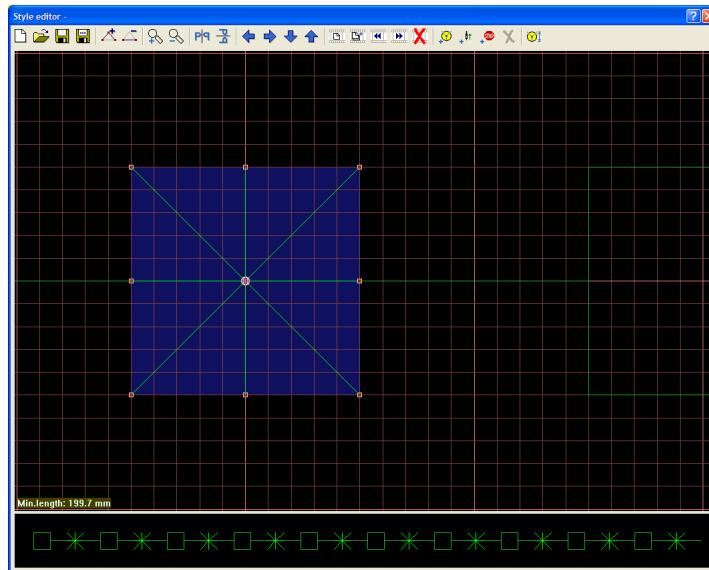

Figure 9.6: Step 4
4. The next style stitch that we will add is a “STAR”. Start inserting the points that will create the star using the “Insert point” tool and create the star shown below (Figure 9.6).